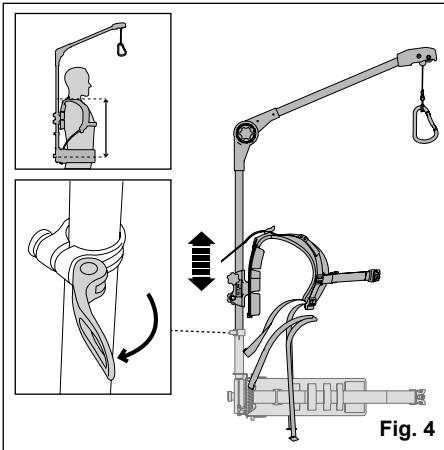

Fig. 4
- Loosen the clamp to adjust the space between your hips and shoulders (Fig 4). After adjusting, fasten the clamp to lock the desired position. Make sure there is an overlap of minimal 4.5 cm of the tubes.